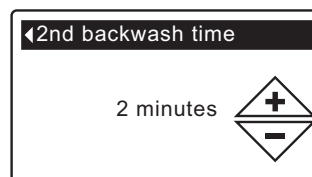

FIG. 69
- 8c. **Second backwash time:** Press the UP ▲ or DOWN ▼ buttons to change the second backwash time. Hold the button down to rapidly advance. The time can be set as high as 30 minutes (See Figure 69).